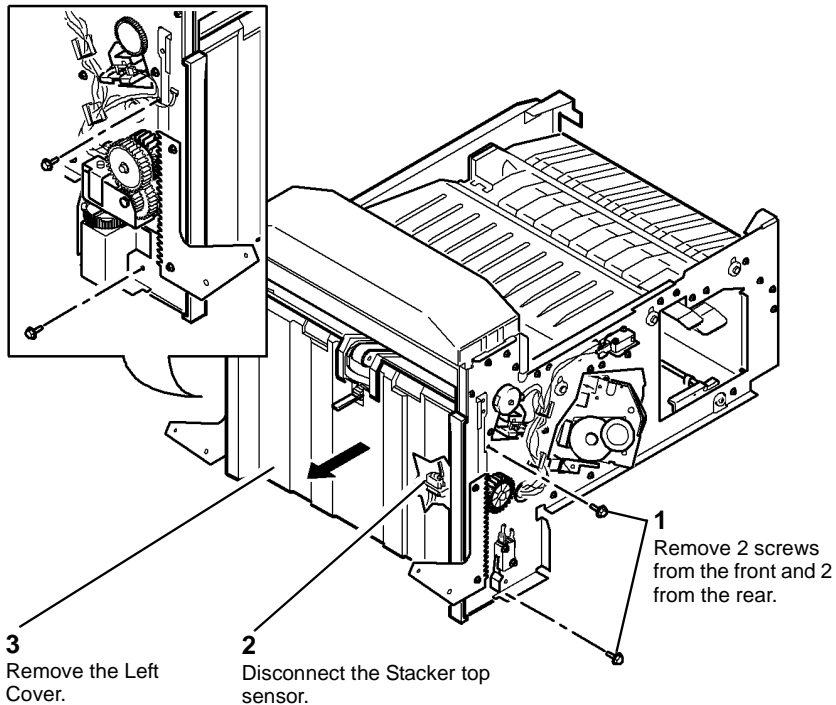

Figure 1 Removing the Left Cover
4. Remove the Left Cover (Figure 1).